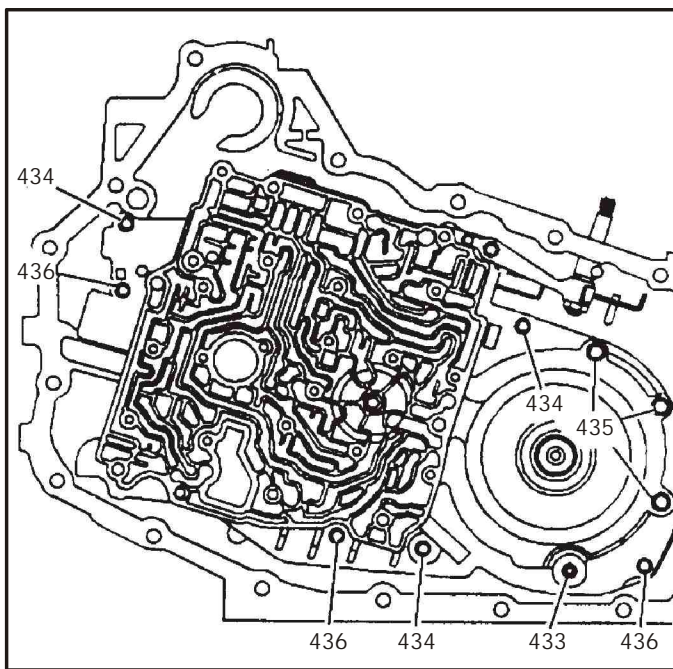

Figure 62
1. Remove the channel plate bolts indicated in Figure 62.